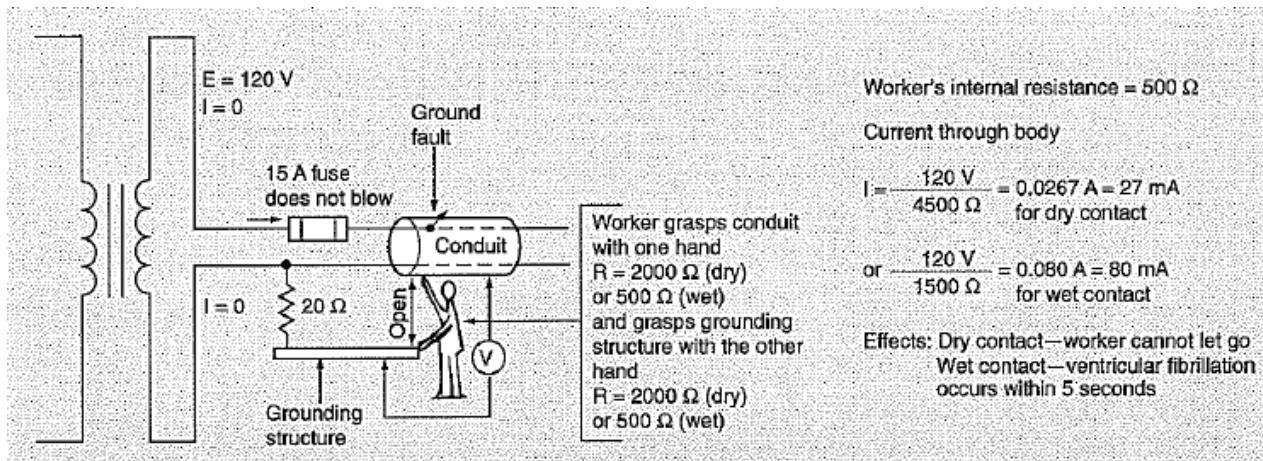

Figure 4.3: Ungrounded Conduit
- 4-7 Figure 4.3 is a diagram of a distribution transformer with 120 V service leads. A grounding connection at the service has a resistance of $20\ \Omega$ between the neutral conductor and a *grounding structure*. This grounding structure is not the earth. It might be a metal frame or other structure that is not connected to the earth.
- 4-10 In order to calculate how serious the shock would be, you must make certain assumptions. For example, suppose you assume that someone grabs the conduit with one hand while holding onto a grounded structure with the other. Table 4-1 shows the approximate resistance at each contact, and the internal resistance of the worker's body. Figure 4.3 shows the following. The resistance also depends on how tightly the person grips the metal, and on other factors.
4.12 You can use Ohm's law to calculate the current through the worker's body. This calculation is shown in Figure 4.3. The current is about 27 mA if the contact is dry, and about 80 mA if the contact is wet. From Table 4-2 you can see that even if the contact is dry, the current is high enough to prevent the worker from releasing his or her grip and breaking the circuit.